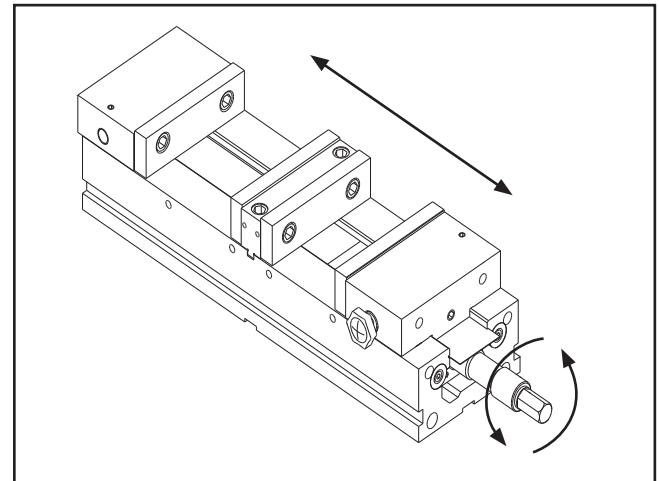

Figure 3. Opening jaws.
2. Once fore-side has opened completely, step-side will resume opening. Continue opening until there is adequate room to insert workpiece (see **Figure 3**). T10065 has maximum clamping range of 3½" using fixed center jaw, while T10066 can clamp up to 4⅞".